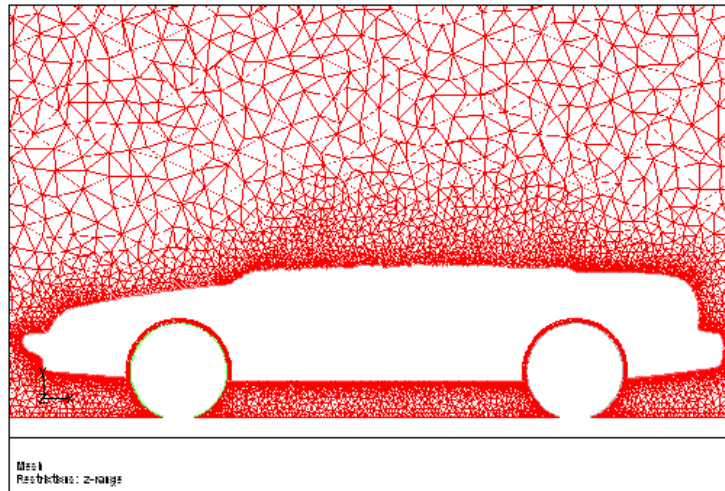

Figure 2.7: Slide of Cells at  $Z = 0.38$
- Display the mesh on a slide through the wheels ( $z = 0.38$ ). See Figure 2.7.